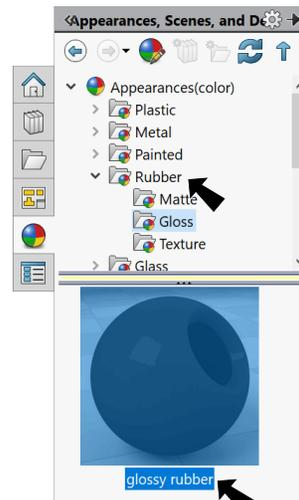

Fig. 54
- Step 3. In the Appearances Task pane, expand Rubber, click Gloss and in the lower pane select glossy rubber, Fig. 54.